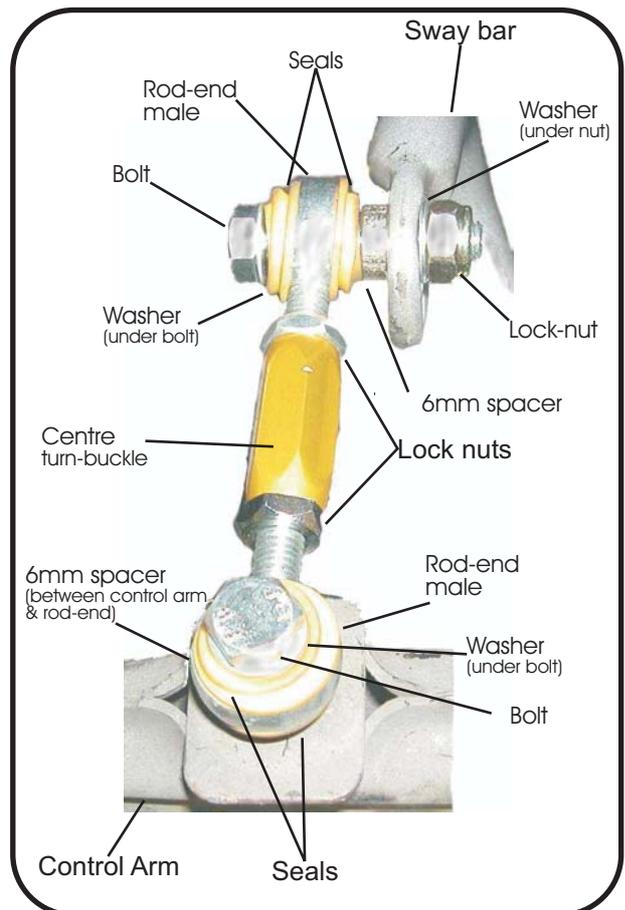

Fig1. KLC050.
3. Assemble link, placing dust seals and spacers as shown in Fig.1.